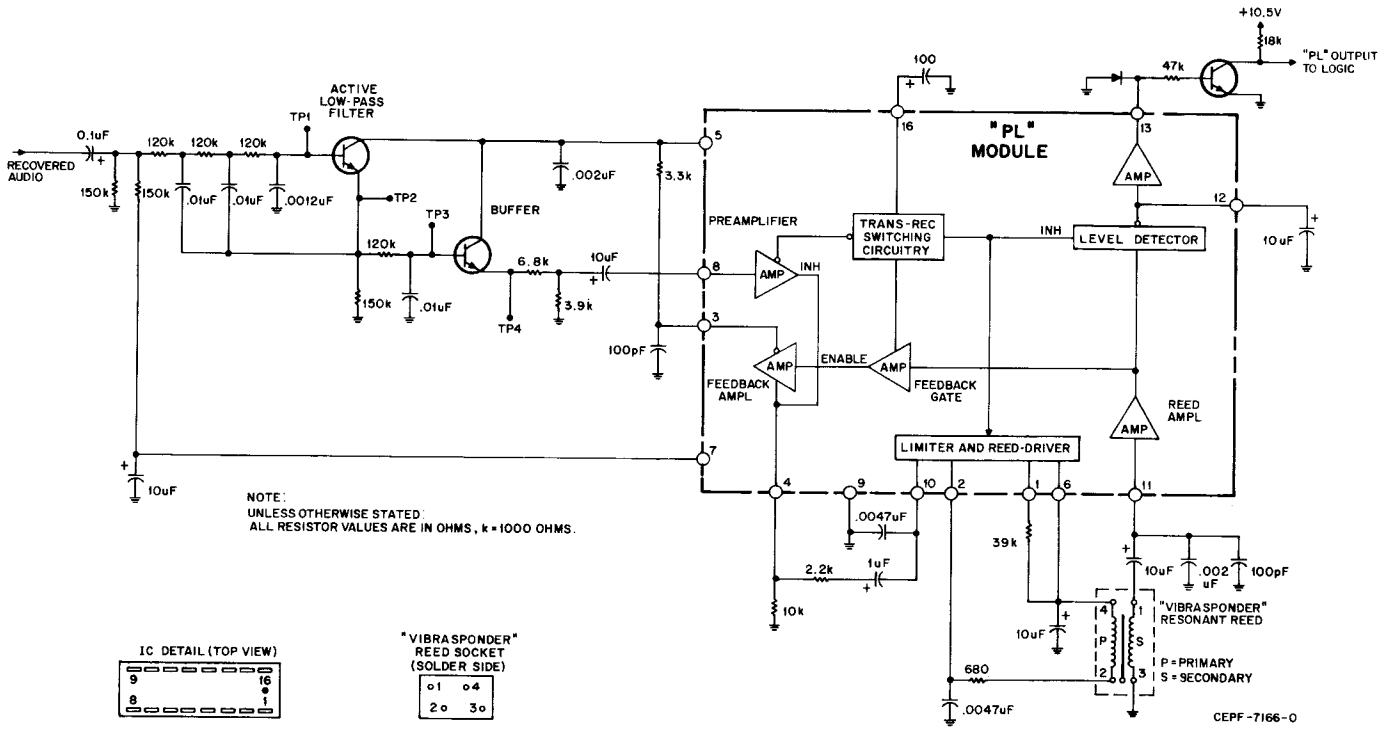

Figure 23. Typical "Private-Line" Circuit
b. "Private-Line" Circuits (Refer to Figure 23)